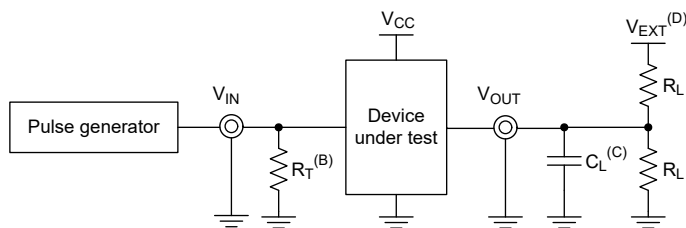

图 6-1. Load Circuit
2. Waveform 1 in 图 6-3 is for an output with internal such that the output is high, except when OE is high (see 图 6-1). Waveform 2 in 图 6-3 is for an output with conditions such that the output is low, except when OE is high.